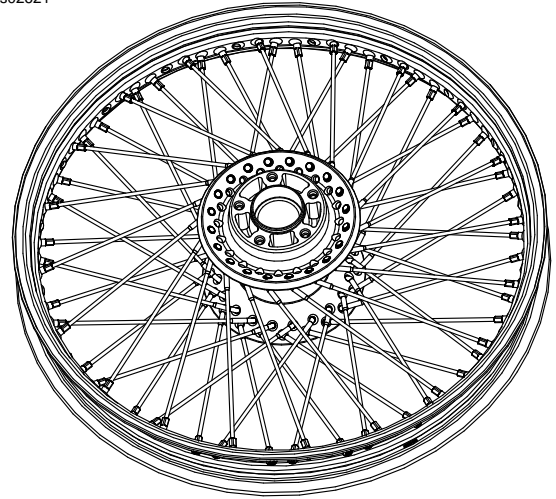

Figure 7. Install Outer Spokes
7. See Figure 7. Turn rim over so brake disc side faces **down**. Place any **outer** row spoke into hub. Angle spoke counterclockwise and insert into rim hole angled to accept it. Loosely assemble the spoke nipple.